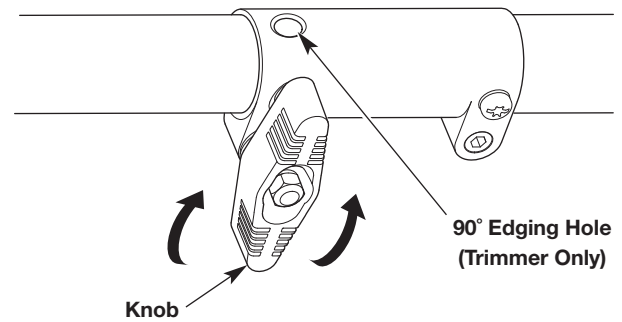
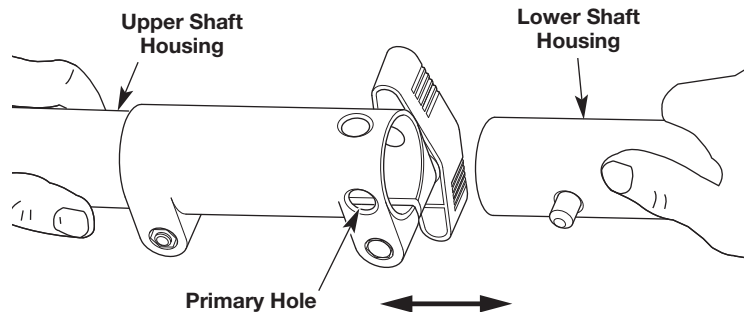

Fig. 3
Fig. 5
1. Turn the knob counterclockwise to loosen (Fig. 3).
2. While firmly holding the attachment, push it straight into the coupler until the release button snaps firmly into the primary hole (Fig. 5).
3. Turn the knob clockwise to tighten (Fig. 3).
**CAUTION:** Before operating the unit, make sure the release button is fully snapped into the primary hole (Fig. 5) and the knob (Fig. 3) is securely tightened.
For decorative edging with a string trimmer attachment, lock the release button into the 90° edging hole (Fig. 3).
3. While firmly holding the upper shaft housing, pull the attachment straight out of the coupler (Fig. 5).